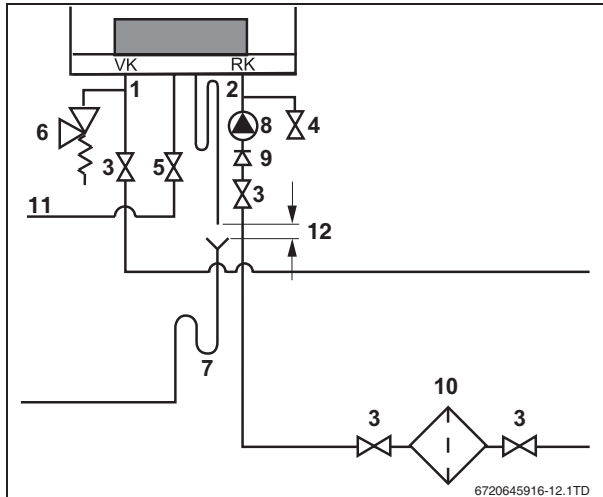

Fig. 12 Connecting the boiler supply and return
- ▶ To prevent contamination in the heating system we recommend you integrate a dirt filter (fig. 12, [10]) in the return pipe, near the boiler. In an old system it is a requirement to install a dirt filter. Also install shutoff valves to enable filter cleaning immediately upstream and downstream of the dirt filter (scale cartridge or y-strainer)
- Connect the supply pipe with a flat rubber seal installed to the Supply connection (fig. 12, [1]) making sure it is not under stress. Use a supply pipe with a minimum diameter of 1 1/2" (38 mm)
- Connect the return pipe with a flat rubber seal installed to the Return connection (fig. 12, [2]) making sure it is not under stress. Use a return pipe with a minimum diameter of 1 1/2" (38 mm).
- Install the pump (fig. 12, [8]) in the return circuit (fig. 12, [2]).